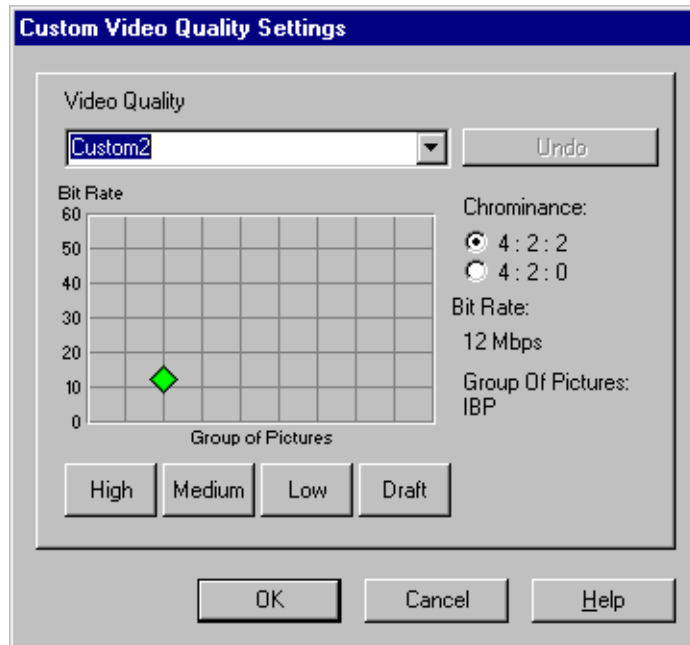

Figure 59. MPEG Custom Video Quality Settings dialog box
- For MPEG (see Figure 59 and Table 7) select a chrominance value, either **4:2:0** or **4:2:2**. Then move the diamond on the grid or click the High, Medium, Low, or Draft button—the corresponding bit rate and picture structure is shown on the right side of the dialog box.